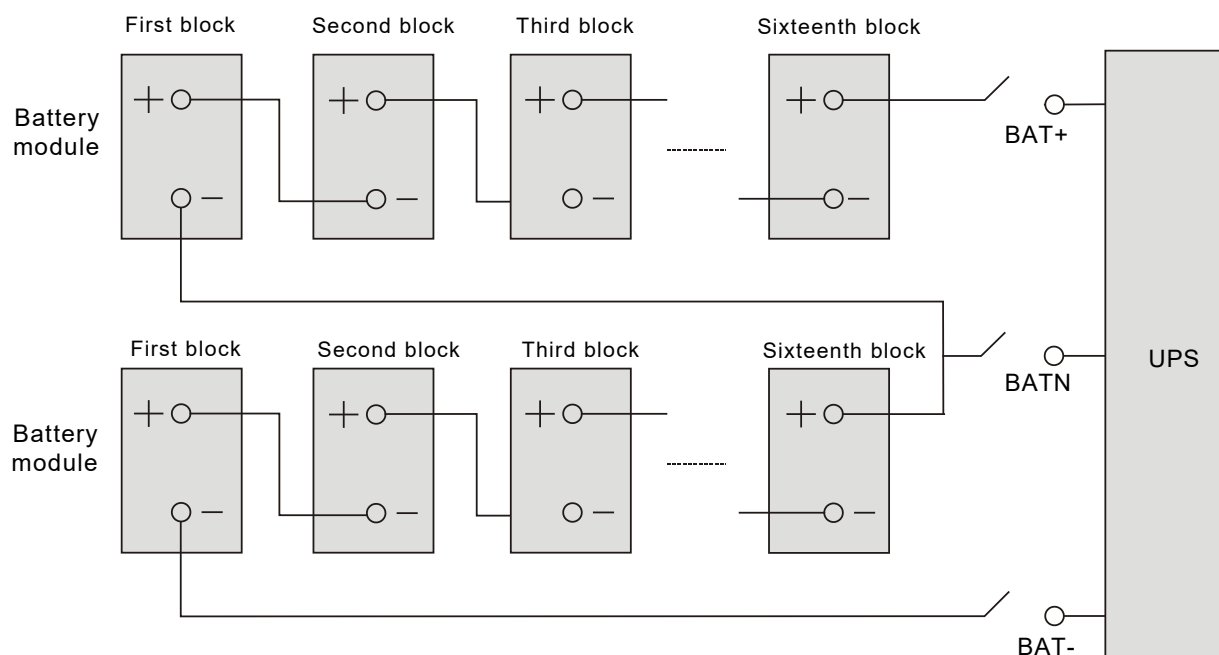

Figure 2-16 Battery string connection principle diagram
The default battery number of the UPS is 32-block (16-block for positive and 16-block for negative). The external battery string connection principle diagrams of the self-distribution are shown in Figure 2-16. The required battery backup time (i.e. the time for battery to supply load upon mains failure) is subject to the ampere-hour value of the battery. Sometimes, it is necessary to connect several strings of battery in parallel.
1. As shown in Figure 2-16, one DC battery MCB must be added between the battery strings and the UPS.